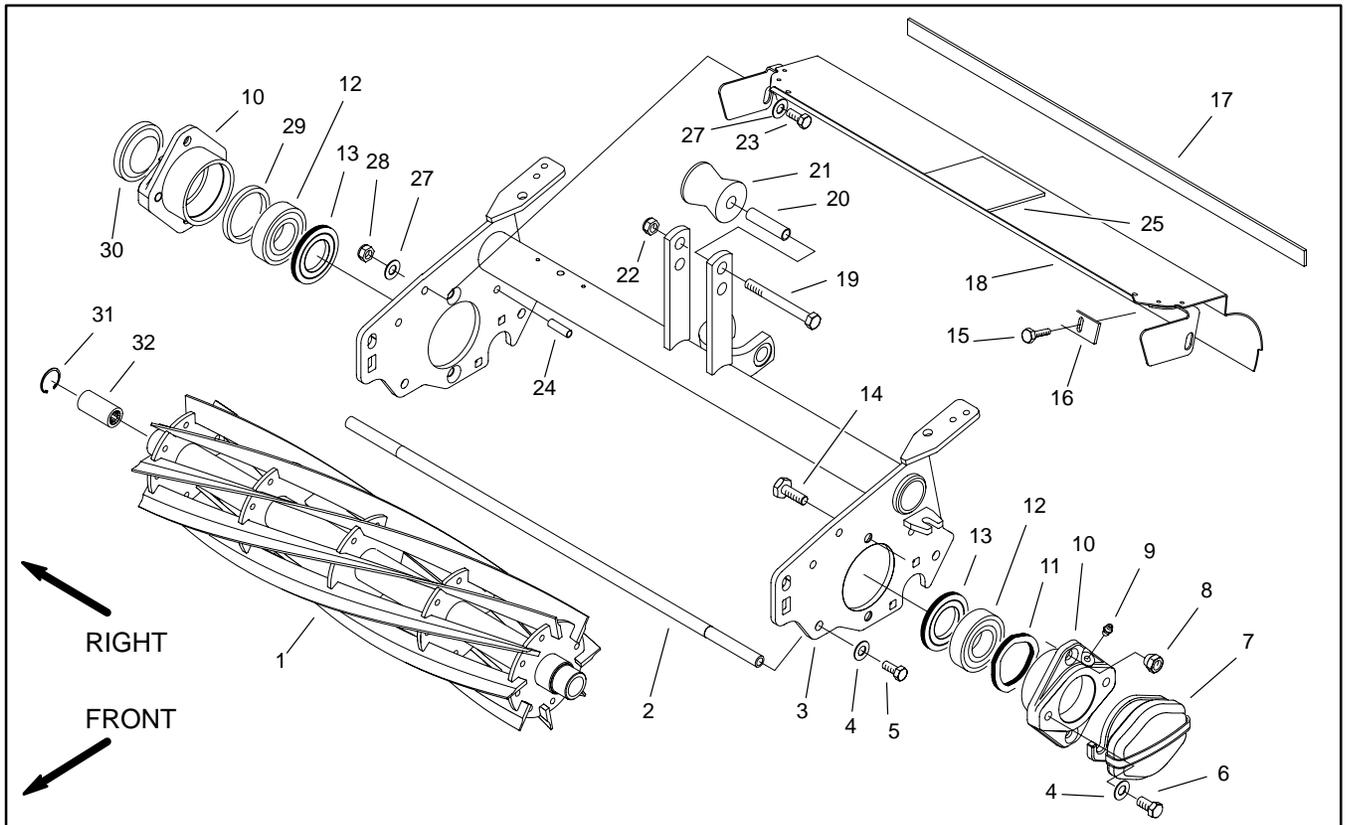

Figure 58
Note: Figure 58 shows the reel assembly for a Single Point Adjust (SPA) cutting unit. Both the SPA and 4-Bolt cutting units are similar in construction with the exception of reel and reel frame. Reel and bearing replacement procedures are the same for each unit.
Removal (Fig. 58)
1. Inspect splined coupler (32) as follows (Fig. 58):
- A. Remove retaining ring (31) and drive coupler from the reel shaft (1).
3. Inspect bearings (12) and grease seals (13) as follows (Fig. 58):
Installation (Fig. 58)
4. Install left bearing housing (10) as follows:
A. Insert bearing housing (10) into the left sideplate of the frame over the bearing (12). Make sure the grease fitting (9) is facing up.
B. Apply Loctite 242 or equivalent to the threads of the two tapered screws (14).
C. Insert both tapered screws (14) through the side plate and bearing housing (10). Start tapered nuts (8) onto the screws.
D. Place flat wire spring (11) into the bearing housing (10).
5. Reinstall shield rod (2) to the frame. Secure rod with both flat washers (4) and cap screws (5).
6. Tap both bearing housings (10) with a soft hammer to seat bearings (12). Tighten tapered nuts (8) to secure housings.
7. Insert drive coupler (32) into end of reel shaft (1) to accept hydraulic reel motor. Make sure splines of coupler mesh with those of the drive adapter. Secure coupler with retaining ring (31) (Fig. 58 and 59).